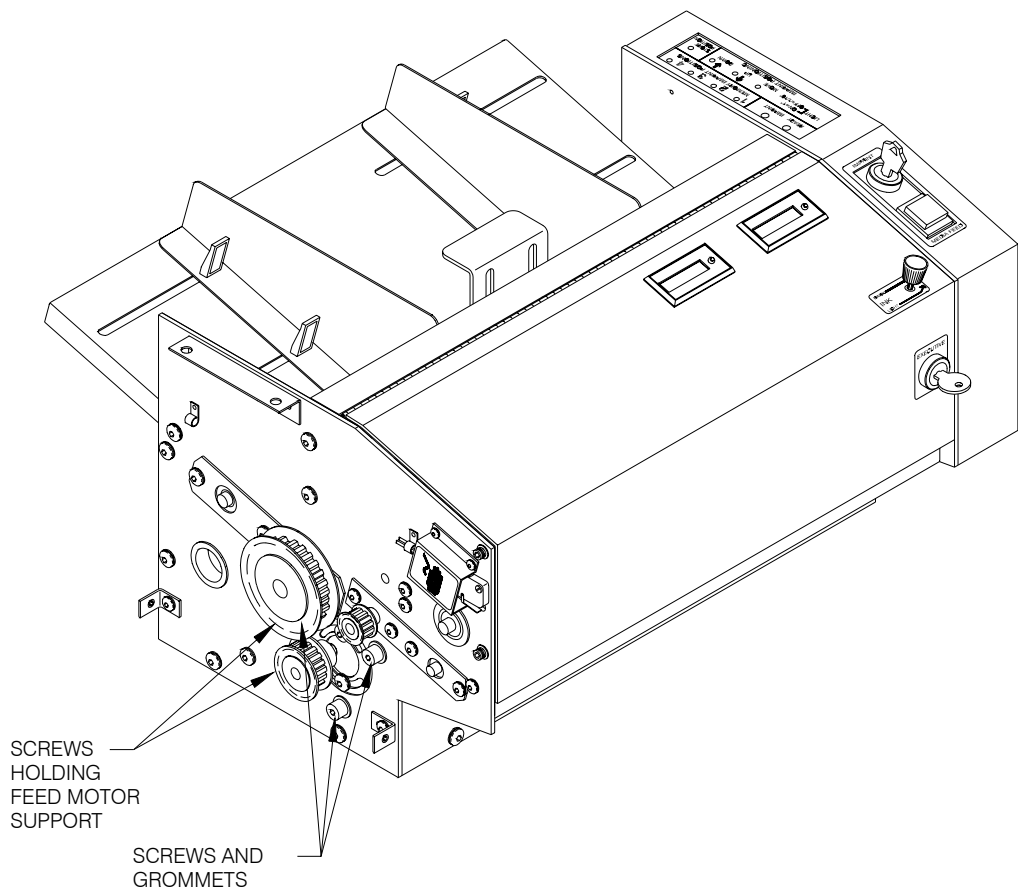

Figure 7.7 -- Replacing a Feed Motor
5. Remove the 2 SCREWS that hold the FEED MOTOR SUPPORT to the SIDE FRAME. (Refer to **Figure 7.7.**)
and pull the FEED MOTOR (with the attached SUPPORT and BRACKET) out of the BASE. (Refer to **Figure 7.7.**)
7. Remove the 2 SCREWS and GROMMETS (refer to **Figure 7.7.**) that hold the FEED MOTOR BRACKET to the FEED MOTOR SUPPORT and pull the FEED MOTOR out of the FEED MOTOR BRACKET. (Refer to **Illustrated Parts Guide.**)
10. Fasten the FEED MOTOR SUPPORT to the SIDE FRAME. (Refer to **Figure 7.7.**)
13. Tighten the 2 SCREWS in the FEED MOTOR. (Refer to **Figure 7.7.**)